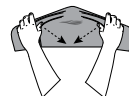

Figure 13.5b
2. Press inward to curl pillow so you can grab it with fingertips, Figure 13.5b.